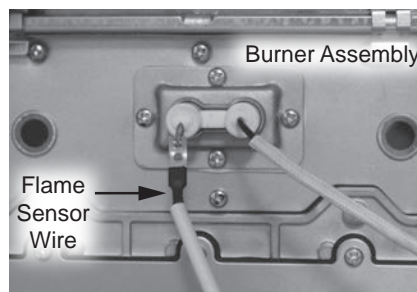

Figure 81 - Removing flame sensor wire
- 5 Locate flame sensor wire attached to burner assembly. Disconnect wire and place aside for easy access to the gas manifold. See Figure 81.
- 34** Locate the flame sensor previously disconnected from burner assembly in **Step 5**. Connect flame sensor wire. See Figure 81.